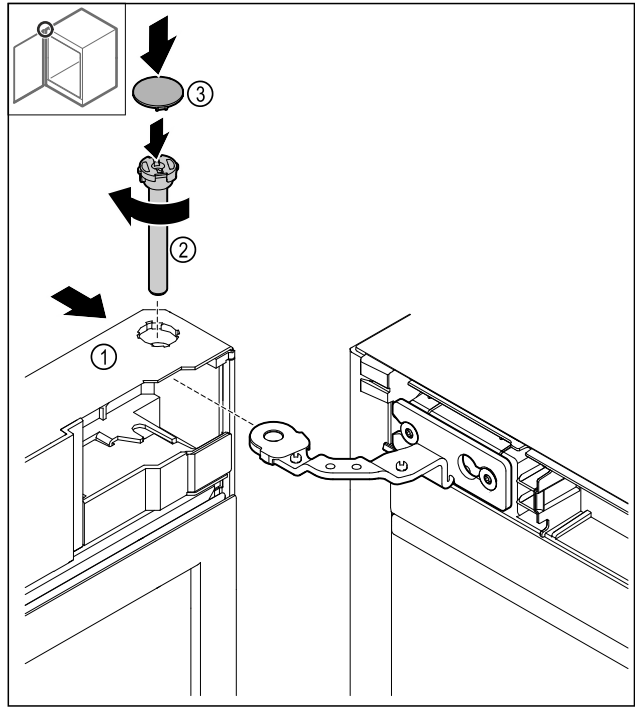

Fig. 47
- ▶ Slide the door Fig. 47 (1) onto the top hinge.
- ▶ Insert the bolt Fig. 47 (2) and turn it clockwise to tighten.
- ▶ Put on the cover Fig. 47 (4).